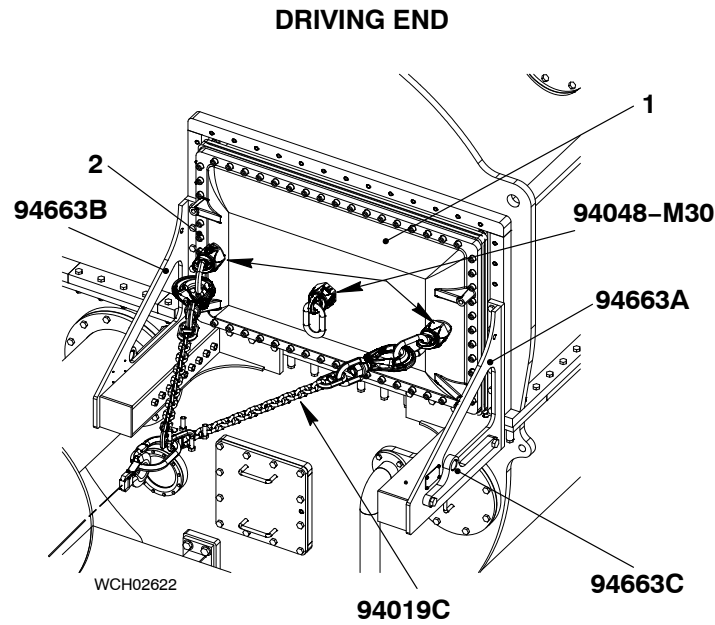

Fig. 3
- 11) At the driving end, attach the three lugs (94048 M30) to the SAC (1, Fig. 3).
- 12) Attach the two supports (94663A, 94663B) to the scavenge air receiver with the screws (2).
- 13) Torque the screws (2) to 136 Nm.